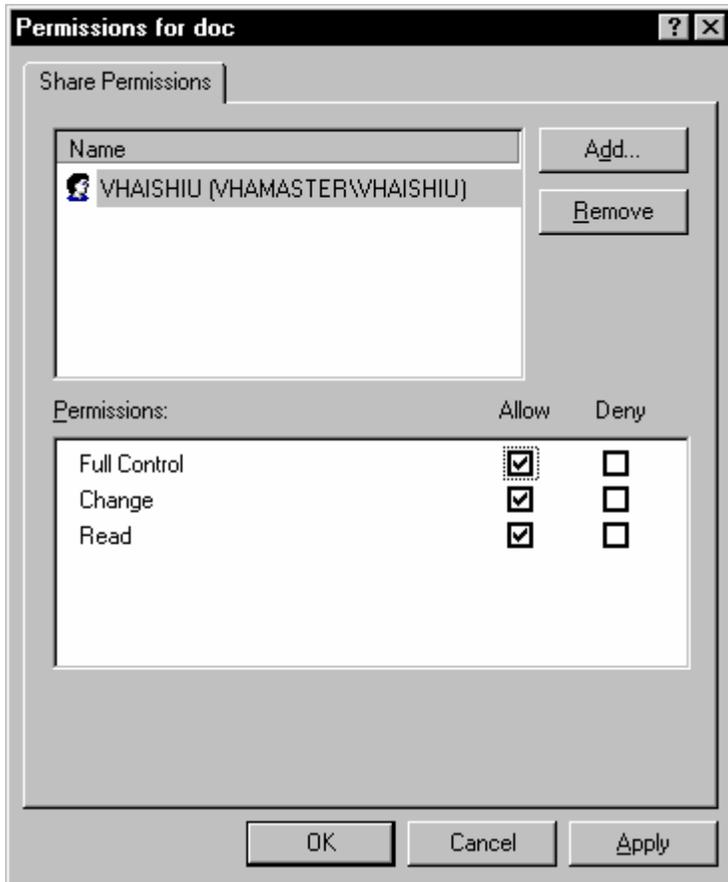

Fig. 11-5
8. Make sure the check boxes are selected in the “Allow” column for “Full Control”, “Change” and “Read” (Fig. 11-5).